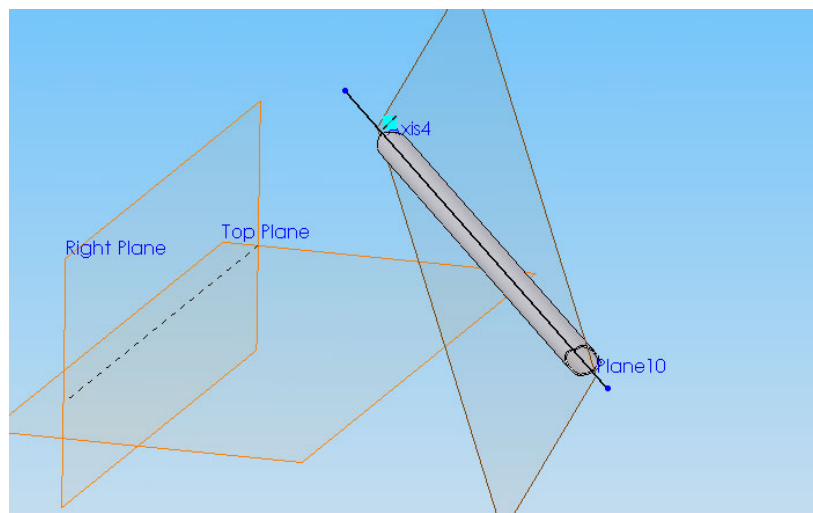

Figure 2.
2. Next create a sketch on the plane just created. Draw a line approximately through the centerline. Hold the Ctrl key and select the line and the axis. In the properties dialog under add relations select collinear. You can also do this by going to *Tools*→*Relations*→*Add*. Finally drag the endpoints of the line so they extend past the tube on both sides. Figure 2 shows how this should look.